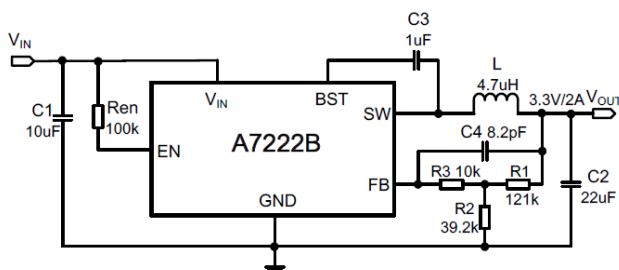
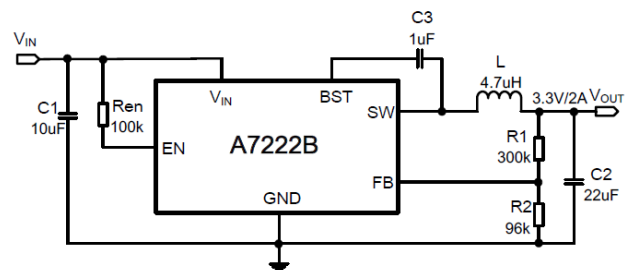

Figure 1.
Figure 2.
2) The resistance $R3$ in Figure 1 makes the loop more stable. If it isn't used, the resistance $R1$, $R2$ should be adjusted(See Figure2.). The value of $R1$ is recommended to be about 300kΩ.